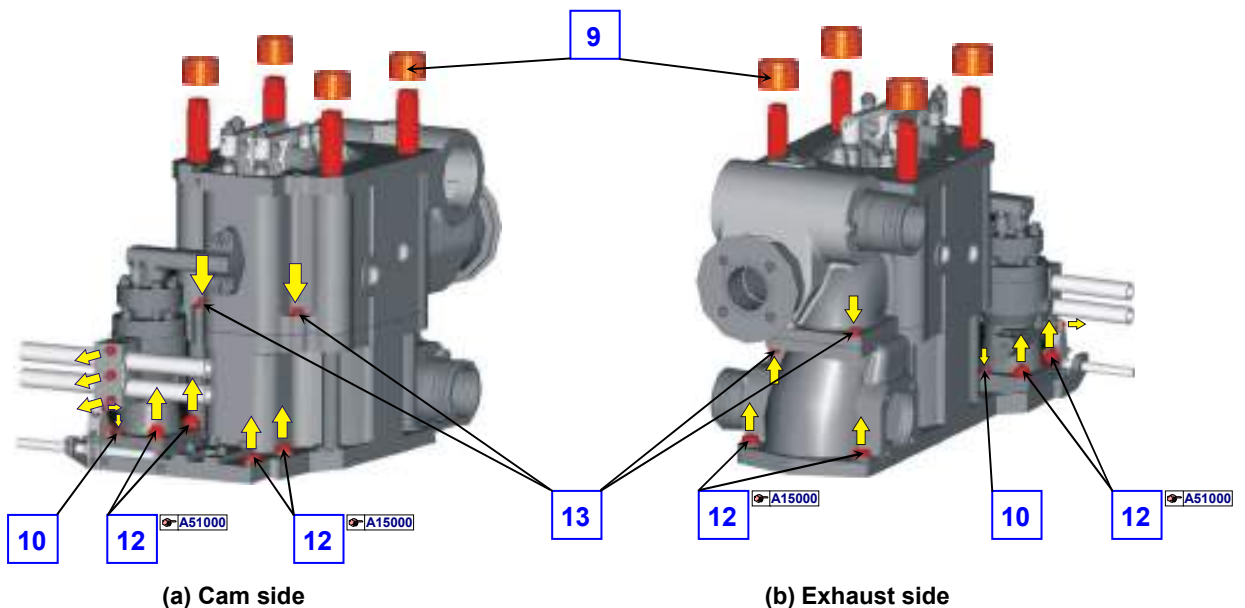

Fig. 3 Fix water jacket to cylinder head with screws (워터 자켓과 실린더 헤드의 고정)
9. Loosen and dismount four nuts for cylinder head studs hydraulically at the same time as shown in fig 3.